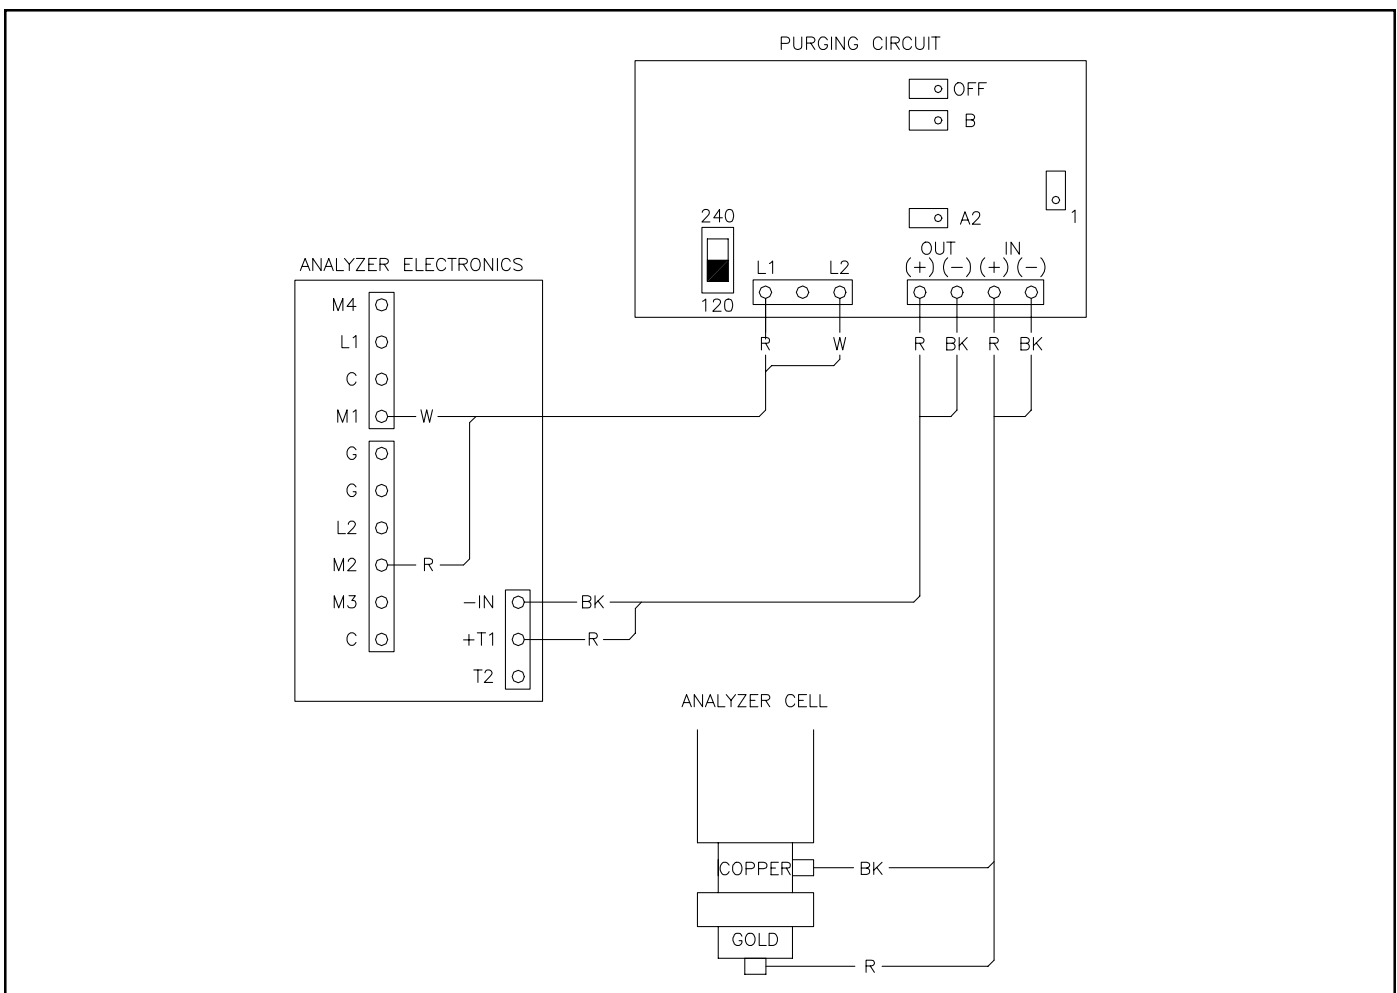

Figure 21 - Purging Circuit
4.10 Purging Circuit (Optional) Figure 21